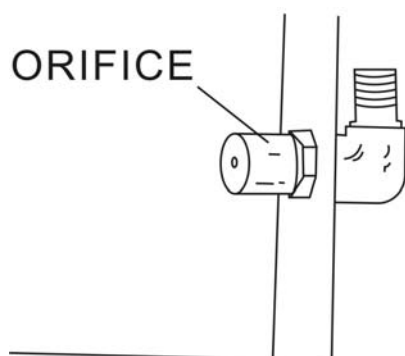
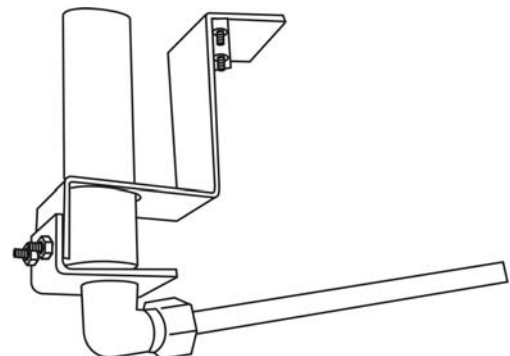

Figure 8
Figure 9
3. Replace the propane orifice (See Figure 8) with the natural gas orifice from the kit and reinstall the orifice holder by tightening the nuts as shown in Figure 9. Reconnect and tighten the gas tube to the orifice.